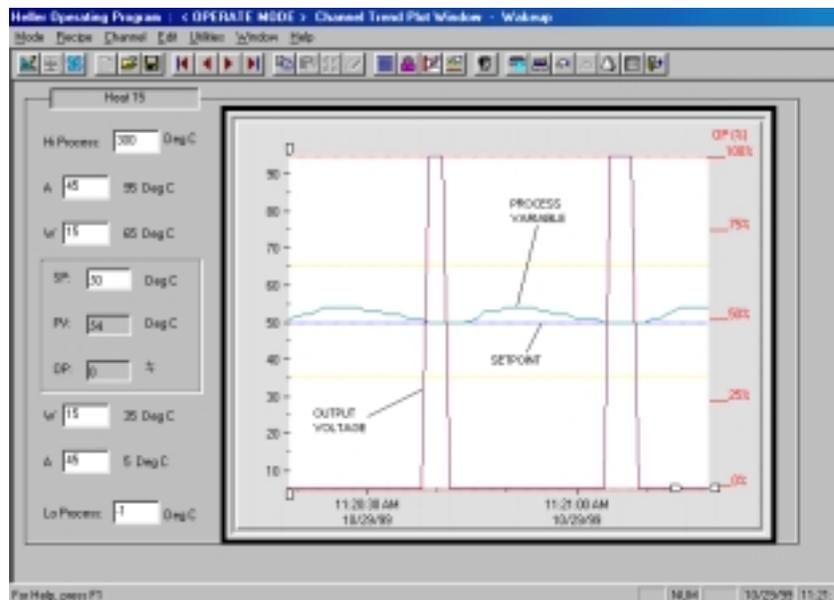

Figure 12
3. If the output voltage (OUT) curve oscillates by more than about 20% or is erratic, suspect a faulty SSR or burned out blower motor. (Provided the thermocouple was OK. See step 2.) If the trend plot resembles **figure 12**, check to see if the blower motor is functioning. (With the oven cool, open the top shell and verify airflow at the suspected heat module.) If the trend plot resembles **figure 13**, replace the SSR (Solid State Relay) for the suspected zone. (See maintenance section.)